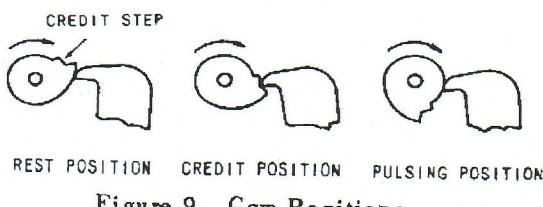

Figure 9. Cam Positions
1. Turn the motor manually until the latch bar lever drops to the credit step of the outer cam and then reverse the direction until the point of the lever is against the vertical part of the cam as shown in *Figure 9 above*.
The selection switches have three conditions of operation corresponding to the 3-positions of the cam shown in *Figure 9* and are
1. Place the cam in the Credit Position (*Figure 9*).